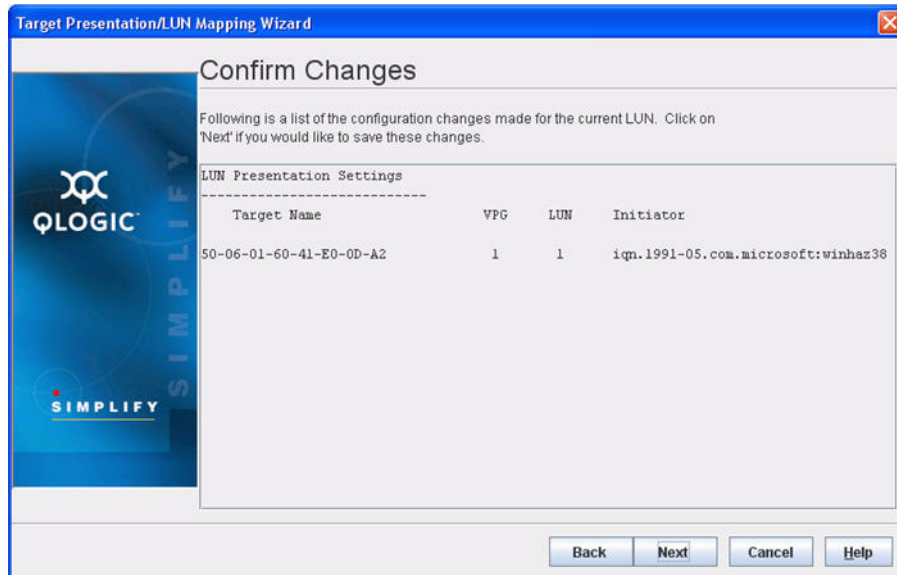

**Figure 4-17 Target Presentation/LUN Mapping Wizard - Confirm Changes**
5. Click **Next**. The Confirm Changes dialog box appears, displaying the configuration changes made to the selected LUN, as shown in Figure 4-17.